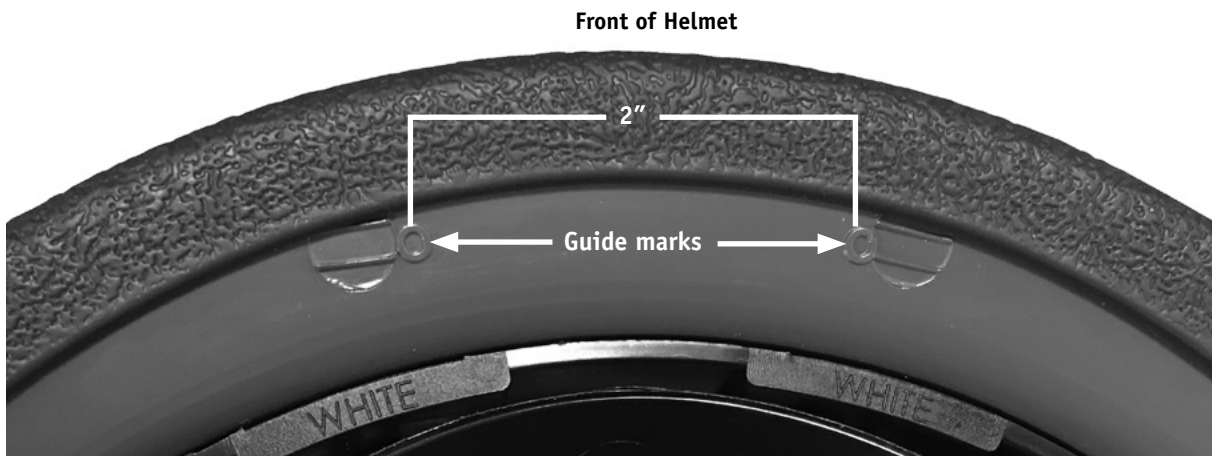

Figure 1
Step 1: Locate the drill guide marks on the underside of the helmet brim (**Figure 1**).